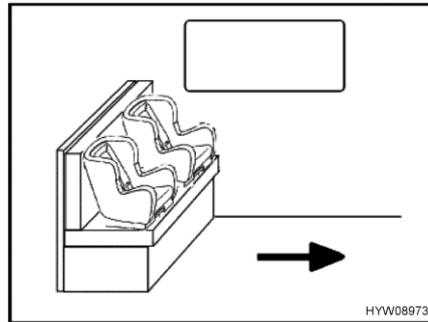
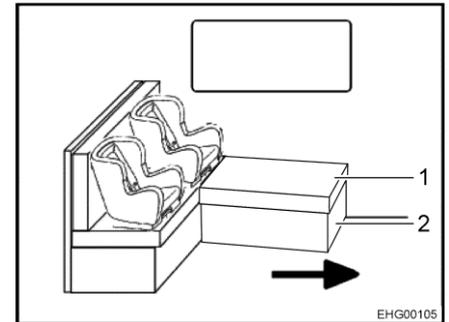

Fig. 21 Child seats on bench
Fig. 22 Child seats on L-shaped bench
The arrow in Fig. 21 and Fig. 22 shows the direction of travel.
- Remove the cushion (Fig. 22,1) if necessary.
- Fold the chest frame (Fig. 22,2) if necessary.